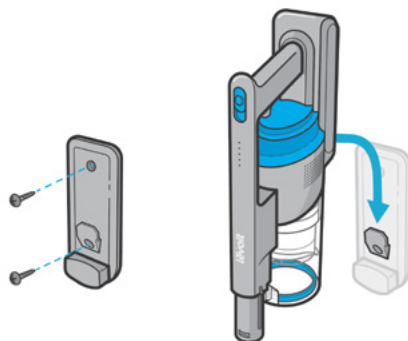

Figure 5.1
1. Install the wall mount by screwing it into the wall [Figure 5.1].
2. Hang the vacuum on the wall mount [Figure 5.1].